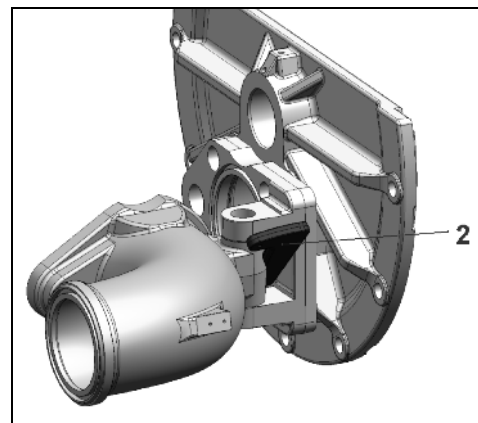

Fig.: 17
- Remove the tapered tube from the pipeline outlet of the stationary concrete pump or remove the pipeline outlet from the boom of the truck-mounted concrete pump by pivoting it to the side and securing it with wedge 2 (Fig.: 17).